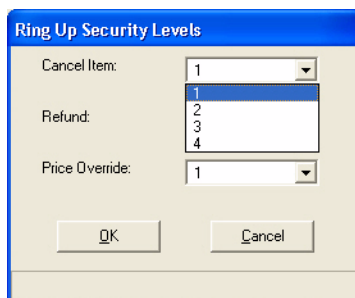

Figure 6-3 Ring Up Security Levels Window
3. Select the **Cancel Item** pull down menu to program the appropriate security level to perform a cancel function. See Figure 6-3.